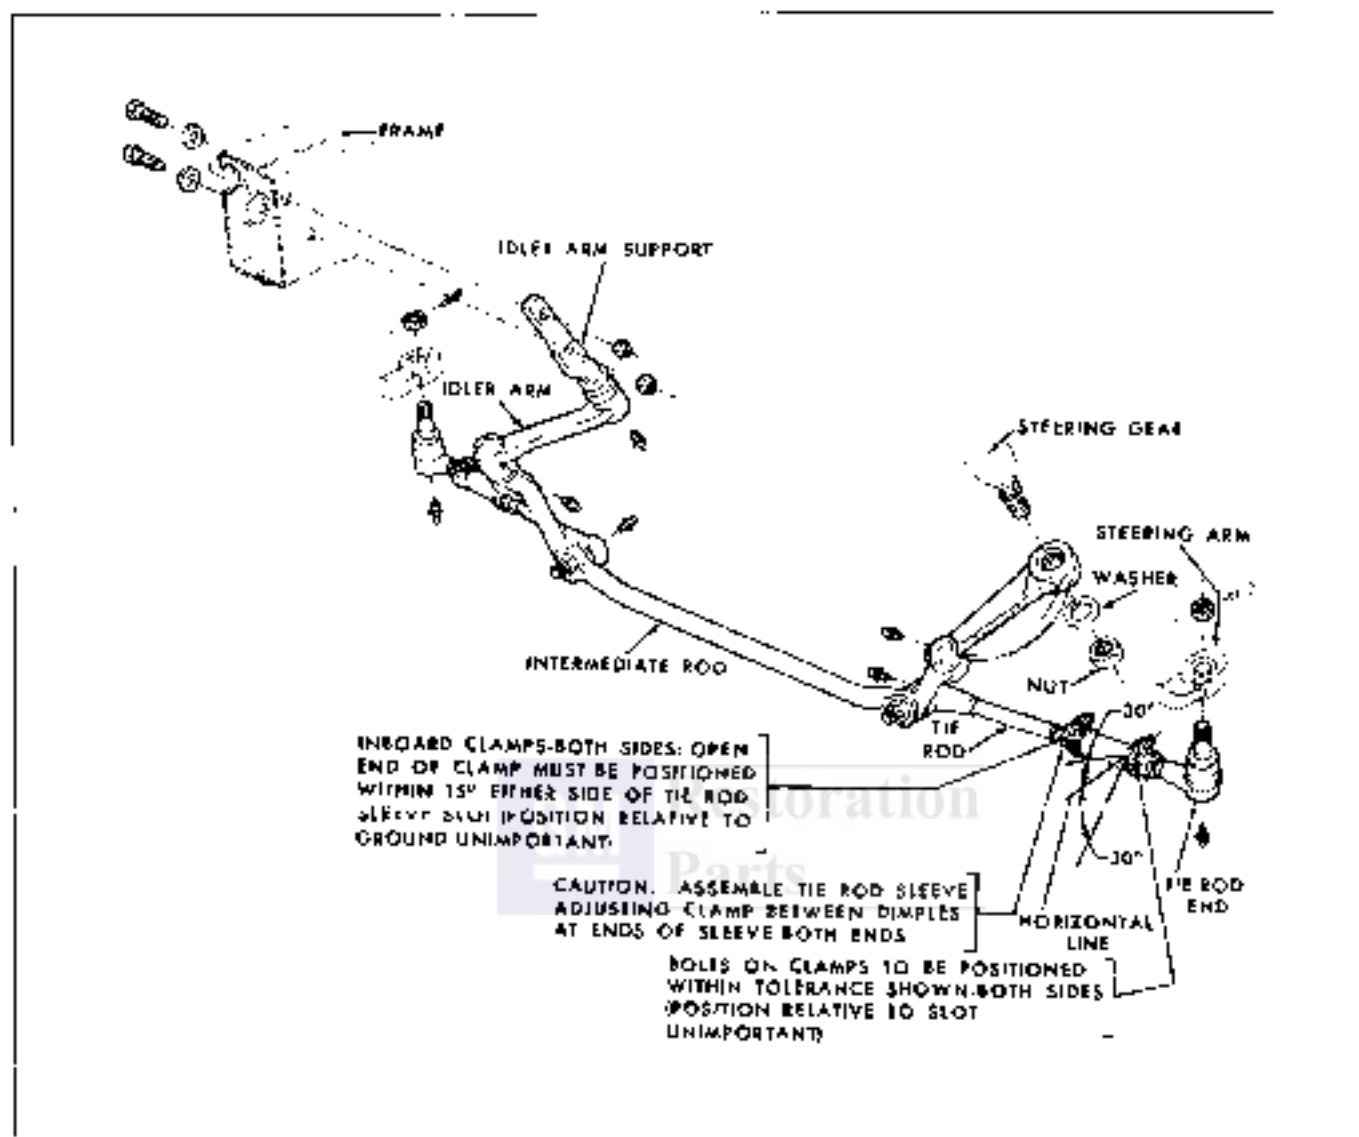

Fig. 9-36 Rear End Steering Linkage
When new tie rods or tie rod ends are installed it is necessary to check toe-in. Check clamp bolts on tie rod adjuster sleeve assembly for tightness (17 ft. lb. torque) and bolts are to rear. Assemble tie rod clamps as shown in Fig. 9-36 for Tempest and Pontiac, Fig. 9-36 for Firebird models.
1. Raise vehicle and disconnect steering connecting rod from pitman arm (Fig. 9-35 and Fig. 9-36), using tool J 5504-01.